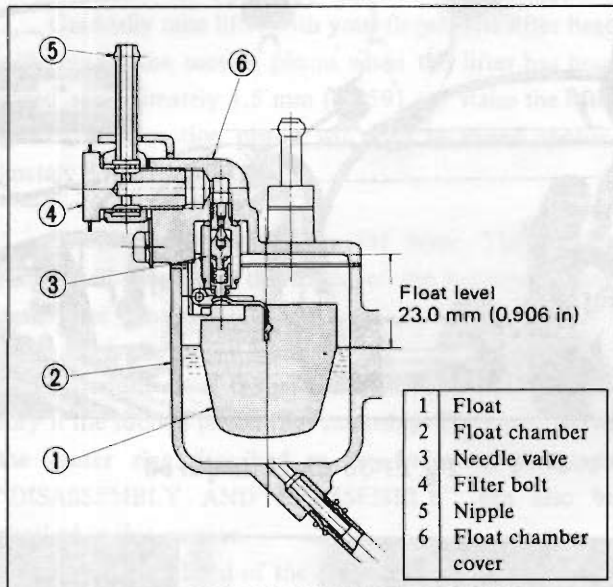

Fig. EF-46 Adjustment of float level
3. The float level is correct if dimension "H" in Figure EF-46 is 14 to 15 mm (0.5512 to 0.5906 in) under the foregoing conditions. If the dimension is not correct, adjust by bending float lever.